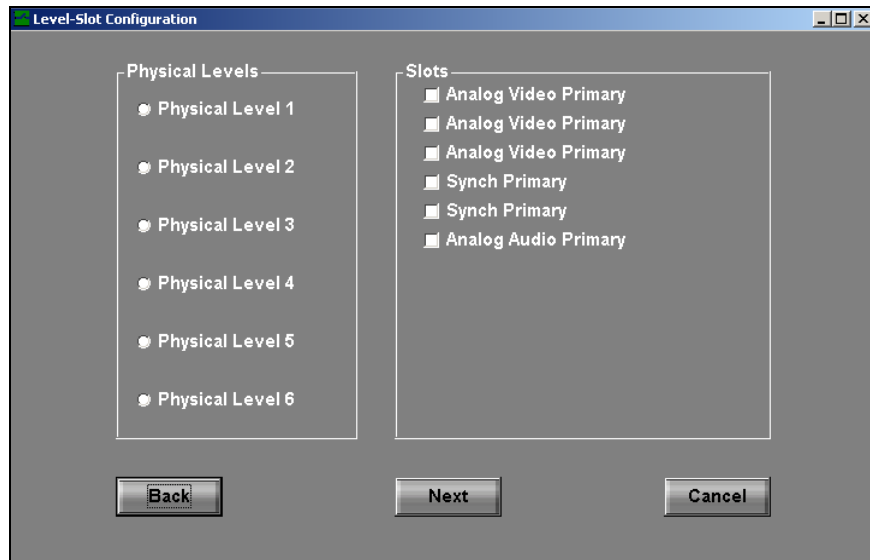

FIGURE 51: Level-Slot Configuration Screen
- 5) Clicking on No will return you to the previous screen (Step 3). Clicking on Yes will display the Level-Slot Configuration screen (see Figure 51).